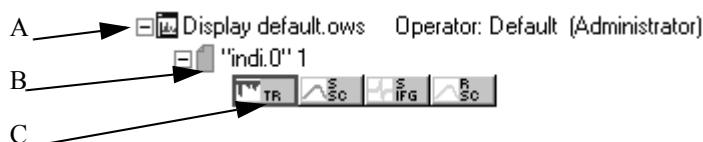

Figure 12: Browser file list
- C) The small icon bar underneath the file name represents data blocks which are part of the spectrum file. The data blocks displayed in figure 12 indicate a transmission spectrum, single-channel spectrum, interferogram and single-channel background spectrum. For further data blocks, see the appendix. If the data block symbols are colored, this indicates that spectra or interferograms are displayed within the spectrum window. Use the left mouse button to select one data block. If you press the *CTRL* key, you can select more than one data block. Selected data blocks are always indicated by a red frame.